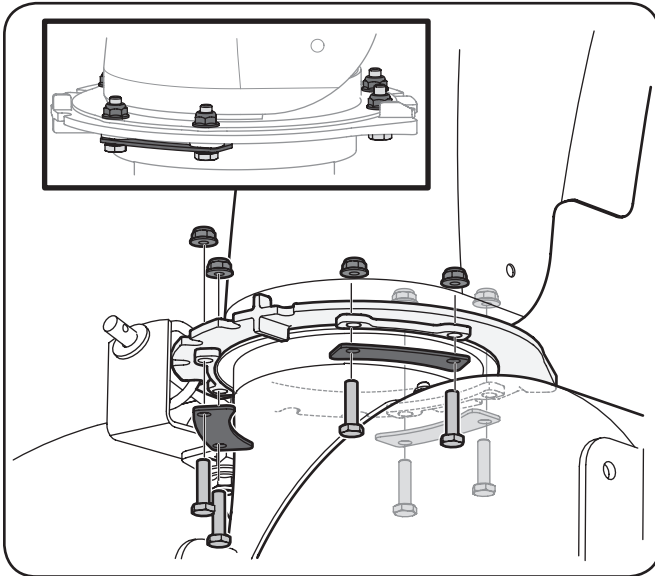

Figure 3-18
- Using two  $\frac{7}{16}$ " wrenches, secure the chute assembly to the chute ring with three flange keepers, six hex screws and flange nuts as show in Figure 3-18.